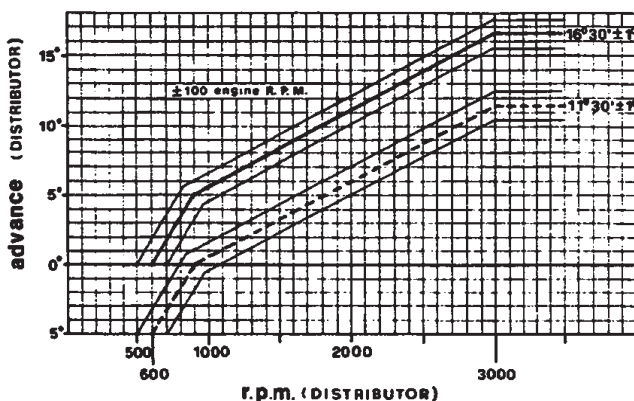

Fig. 10 - AUTOMATIC ADVANCE CURVE.
- If not, remove the distributor from the engine and put it on the advance distributor checking bench. The advance curve on the advanced breaker point R1 must be between the tolerance limits prescribed (see fig. 10 - advance curve).